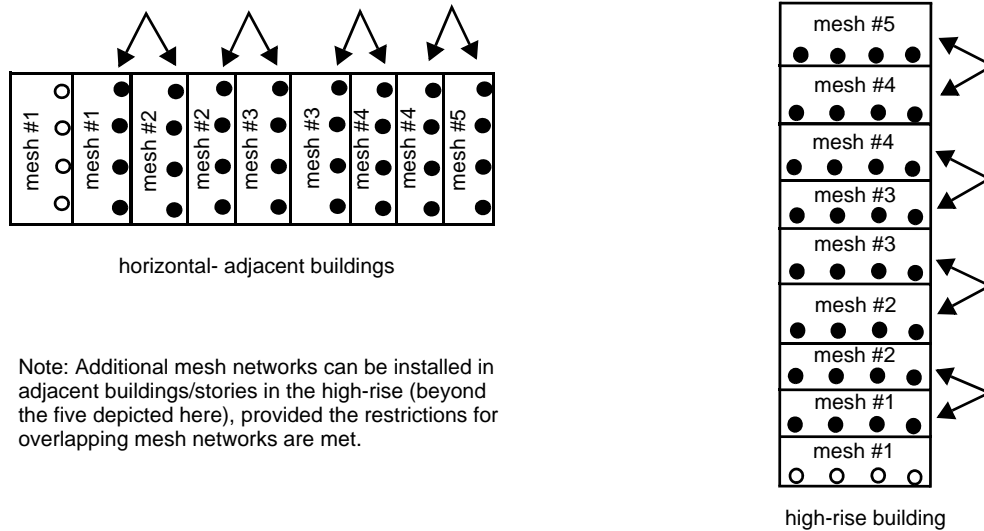

Figure 2.24 Perform a Link Test in High-rise/Adjacent Buildings
3. Find the closest edge device from each mesh to the closest edge of the new mesh. Except as noted in Figure 2.24, four pairs of devices should be identified given there are five overlapping meshes in the area.